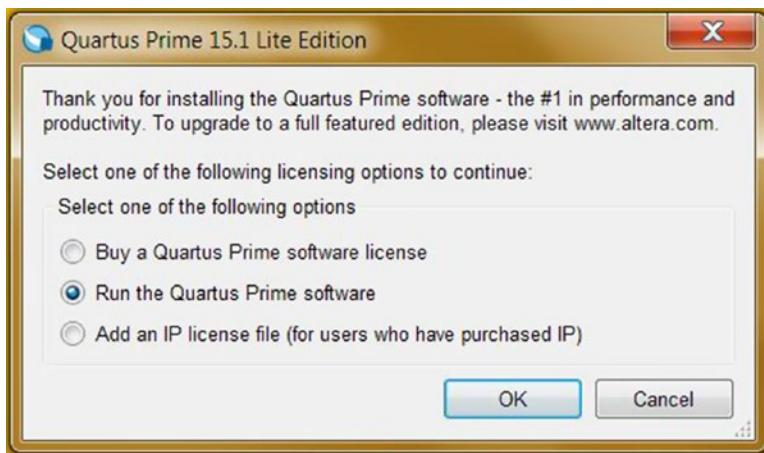

Figure 3-20. Quartus Prime 15.1 Lite Edition licensing options
9. Select **Run the Quartus Prime software** and click **OK** in Figure 3-20. It means that you selected the Lite edition. The Lite edition doesn't need any software license to run it.